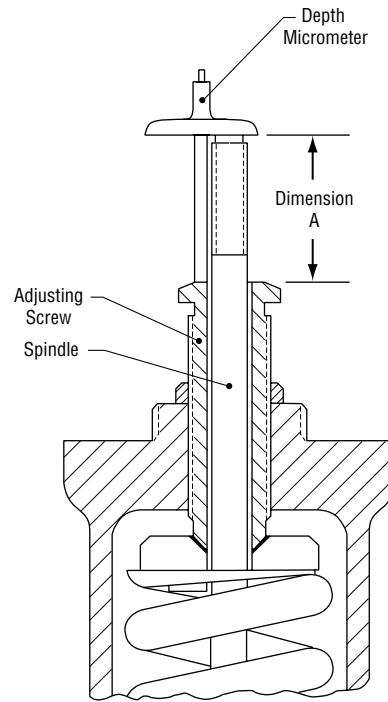

Figure 6
3. Use dial caliper or depth micrometer to measure and record dimension A of Fig. 6 from the top of the spindle to the top of the adjusting screw. This will be used later for adjustment of the valve to near its original set pressure. Loosen the adjusting screw lock nut. Turn adjusting screw counter-clockwise to remove the spring load. When turning the adjusting screw use Vise-Grip® pliers to hold the spindle.